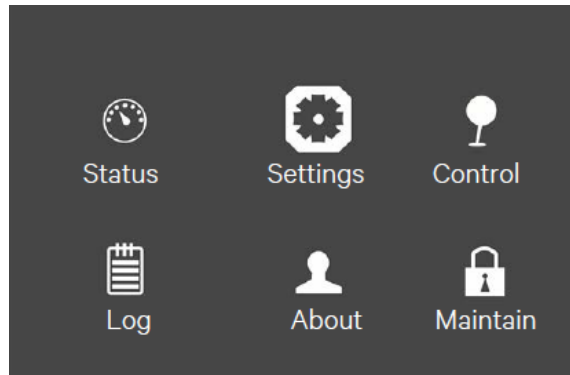

Figure 5-16 Main menu
1. After powering on the UPS, at the main menu screen, press the  or  key to move the cursor to select 'Settings'. See Figure 5-16.